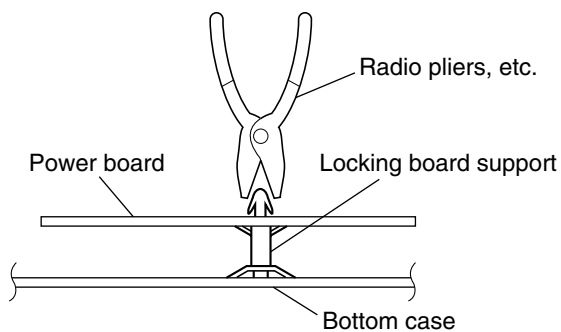

Fig.17
5. Remove the power board by pinching the two locking board supports retaining the power board using radio pliers, etc. (See Fig.17.)